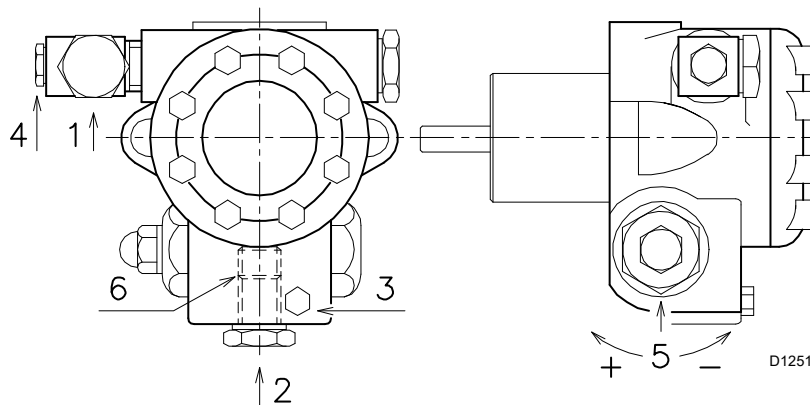

Fig. 19
- In order for self-priming to take place, one of the screw 3)(Fig. 19) of the pump must be loosened in order to bleed off the air contained in the suction line.
In order to adjust pump pressure, use the relevant screw 5)(page 17, Fig. 19)